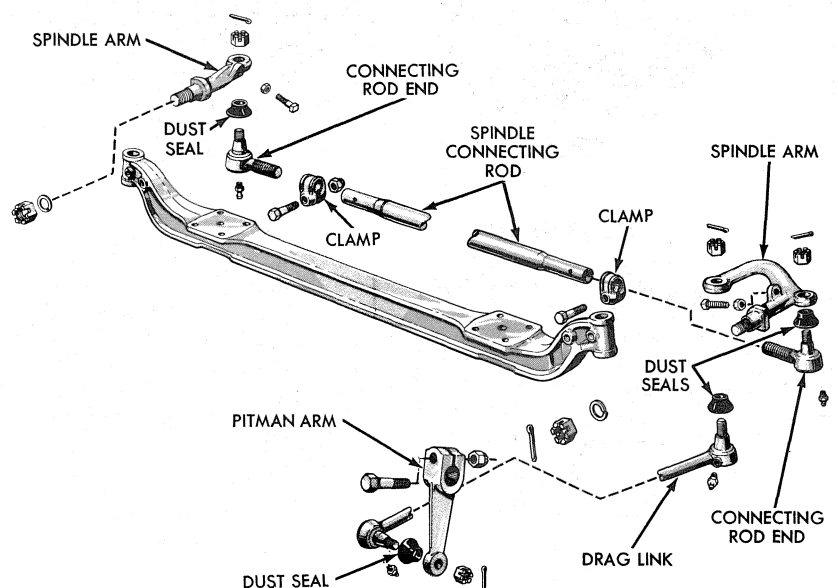

FIG. 9—Steering Linkage
2. Remove the cotter pin and nut, and disconnect the rear end of the drag link from the spindle arm (Fig. 9). Use tool 3290-C.
2. Connect the rear end of the drag link to the spindle arm and install the attaching nut and cotter pin (Fig. 9).
2. Loosen the clamp bolt, and turn the rod end out of the rod (Fig. 9).
1. Loosen both connecting rod end clamps (Fig. 9).